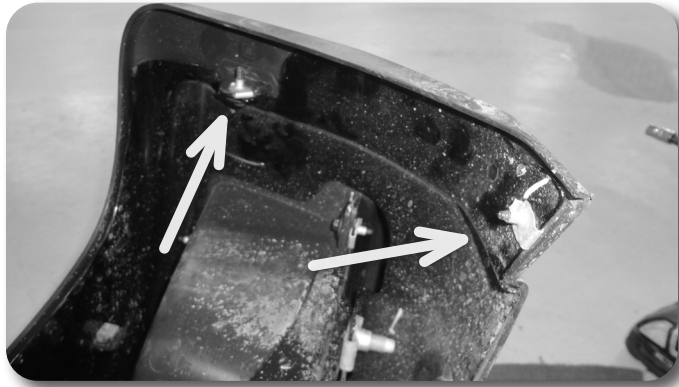

Figure 28
14. At each end of the bumper the screws will need to be removed attaching the plastic bumper cover to the steel bumper. Figure 28